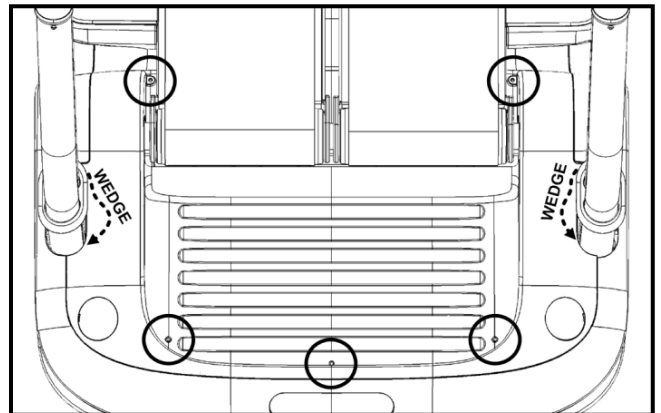

Fig. 26.
24. Mount the rear step shroud (Fig. 26) and wedge the left & right handrail grommets into the available open space between the shrouds. Secure the rear step shroud by installing the corresponding five Phillips head screws at the circled locations.